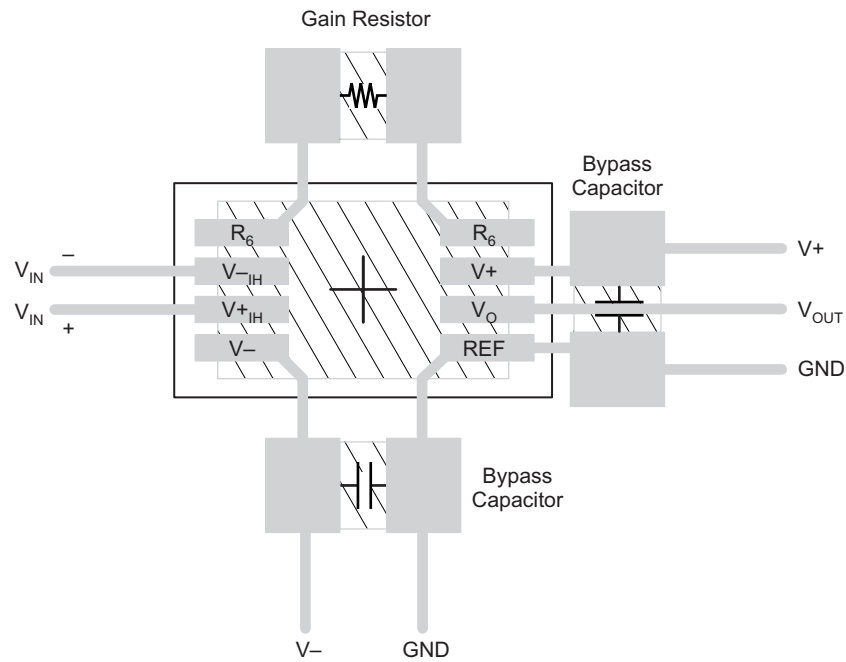

Figure 57. PCB Layout Example
- Place the external components as close to the device as possible. As illustrated in Figure 57, keeping R_G close to the pins minimizes parasitic capacitance.